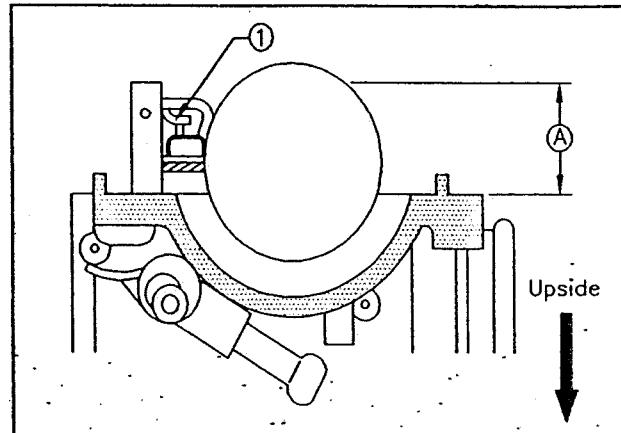

Fig 4.4
To check the float height, invert the carburettor body, holding the float arm pin so that the pin will not slip off. With the float arm kept free, measure the height (A) (fig 4.4) while float arm is just in contact with needle valve by using the caliper. Bend the tongue (1) as necessary to maintain the float height.